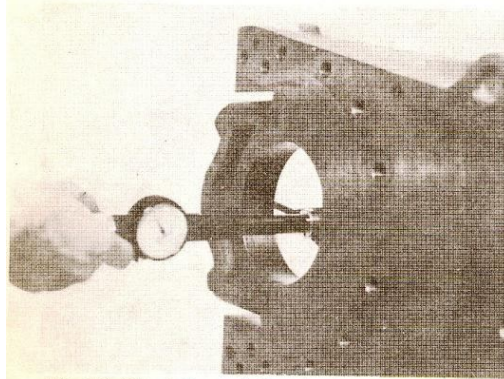

Fig. 1-8. Check the main bearing bore
1. Assemble the main bearing caps to block in operating position. Tighten the cap screws to the operating tension. See Table in Group (P) Wear Limits, Specifications and Torque.
2. Measure the main bearing bores vertically and then every 45 degrees with the dial bore gauge. (Fig 1-8) or inside micrometers properly adjusted.